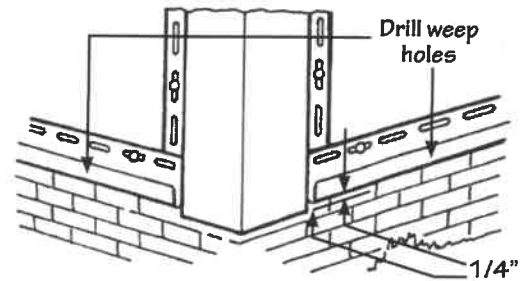
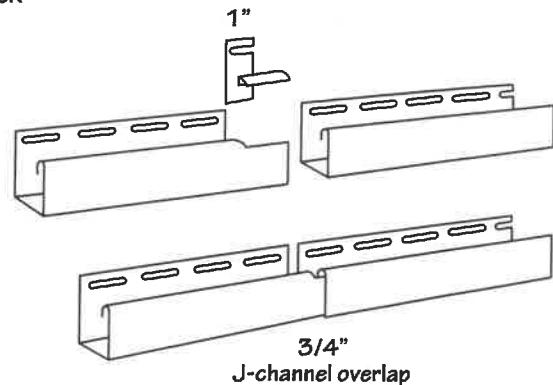
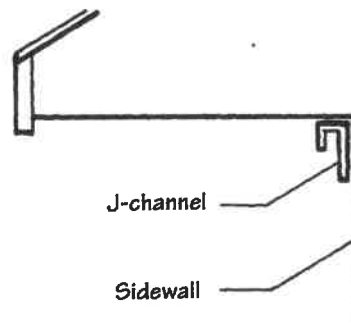

Figure 53.
Figure 54.
Figure 55.
- Position the top edge of a J-channel or vertical base along the previously snapped chalkline. Remember to drill minimum 3/16" (4.8mm) diameter weep holes no more than 24" (610mm) apart (Fig. 53).
Use the center of the nail slots. All vinyl should be fastened securely but not tightly. Sideways movement should not be restricted. Leave 1/4" (6.4mm) gaps at the corner posts (Fig. 53). Where lengths adjoin, trim the nailing flange 1" (25.4mm) and overlap 3/4" (19mm) to produce a neat joint (Fig. 54).
Install J-channel at the tops of the sidewalls (Fig. 55). At the gable ends, snap a level chalkline along the base of the gable and install J-channel. Overlap where necessary and allow for expansion (Fig. 54).